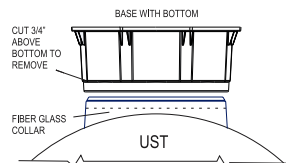

FIGURE 2
A. If your sump came from the factory with a solid bottom, cut it open for a 42" collar by cutting 3/4" up from the bottom of the sump. Refer to FIGURE 2.
C. Sand a 4" wide band on the exterior of the UST collar where the base is to be joined. Refer to FIGURE 2.